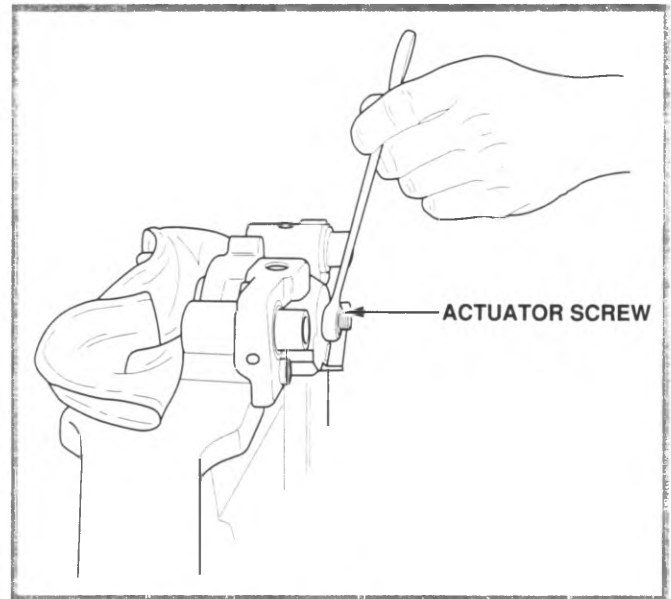

Figure 6-40, Remove Piston
6. Support caliper in a vise (figure 6-40). Pad the inside of the caliper with shop cloths. Using a wrench on the hex of the actuator screw, turn the actuator screw to move the piston out of the bore.